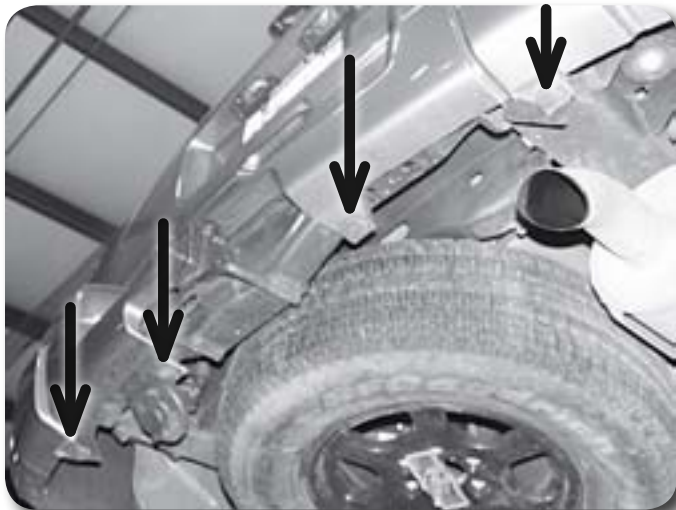

Figure 13
19. Remove the four bottom rear bumper cover retaining clips **Figure 13**. Save clips.